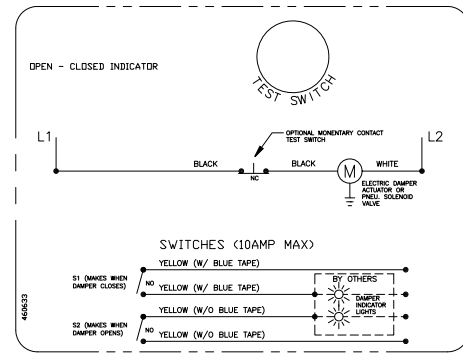

Fig. 1 OCI Wiring
**OCI** - The OCI (open or closed indicator) option contains a single pole, double throw switch used to indicate the damper blade position. The switch provides a positive open or closed signal when used in conjunction with remote indicator lights. Refer to Fig. 1 for wiring of the OCI option.